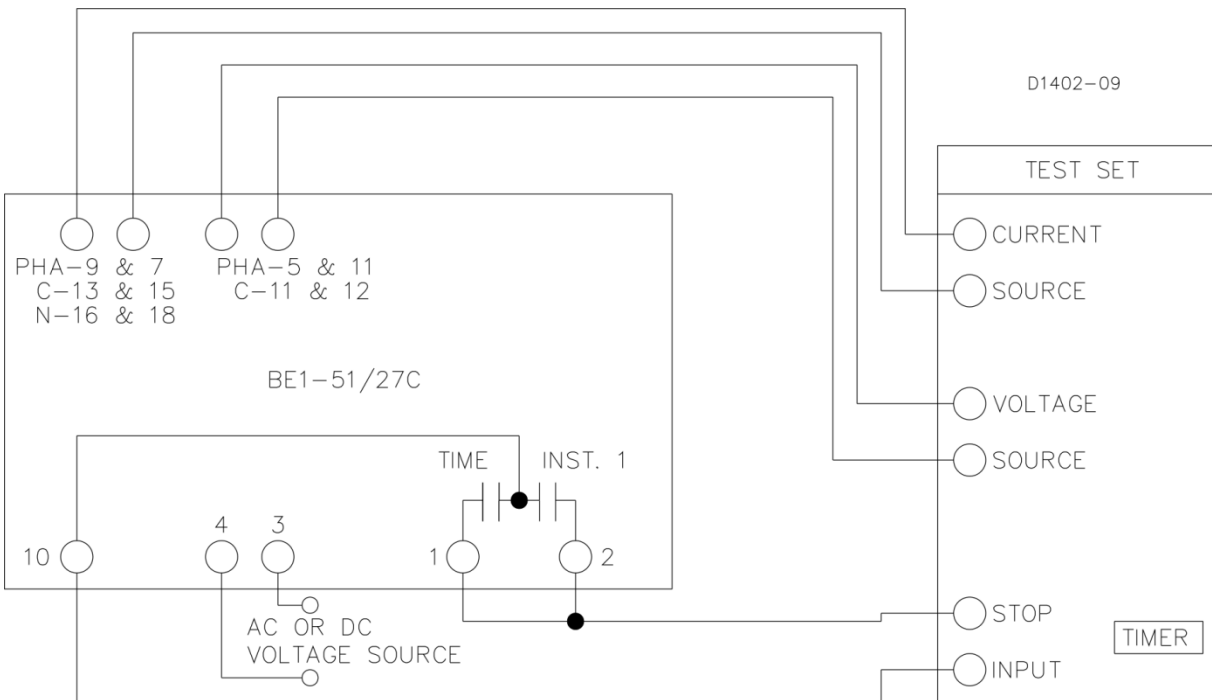

Figure 5-6. Test Setup for Sensing Input Type J (Two-Phase with Neutral Sensing)
- (f) Sensing Input Type J (Two-Phase with Neutral Sensing). Refer to Figure 5-6.
(b) Sensing Input Type J (Two-Phase and Neutral Sensing). Remove the power and reconnect the input sensing to the remaining phases as shown in Figure 5-6, each time repeating Steps 1 through 10. For neutral testing, continue with Step 12.